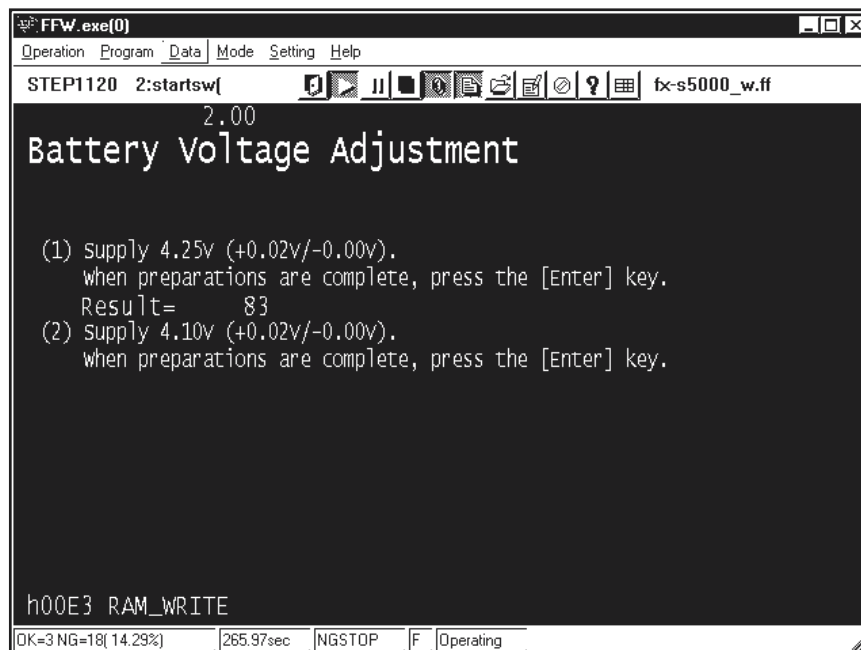

Fig.25
---> The **[Battery Voltage Setting Screen 2.05V (Fig.25)]** appears.